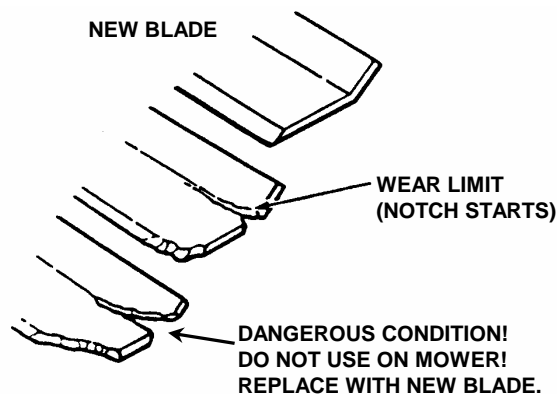

FIGURE 4.12
1. Inspect blade frequently for signs of excessive wear or damage. See Figure 4.12.
6. Inspect condition of blade. See Figure 4.12.